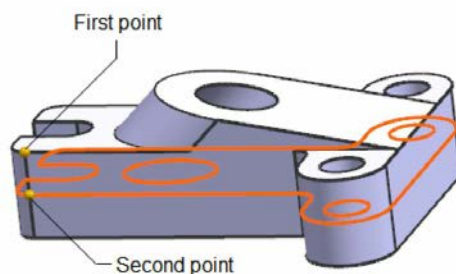

Figure 13-103 Entities selected to modify the thickness of the base feature
- c. Increase the thickness of the base feature using the **Move Face** or **Pull Face** tool, refer to Figure 13-103.
2. Select the **Point to Point** option from the **Motion** drop-down list of the **Transform** rollout; the **Specify From Point** area is highlighted in the **Transform** rollout. Note that if the **Point to Point** option is selected by default in the **Motion** drop-down list, then you need to click on the **Specify From Point** area of the **Transform** rollout to activate it. Select a point from the upper face of the base plate, refer to Figure 13-103; the **Specify To Point** area of the **Transform** rollout is activated. Select a point from the lower face of the base plate, refer to Figure 13-103; the **Face** button is activated in the **Face** rollout. Select the lower face of the base plate; the dynamic preview will be displayed, refer to Figure 13-103.